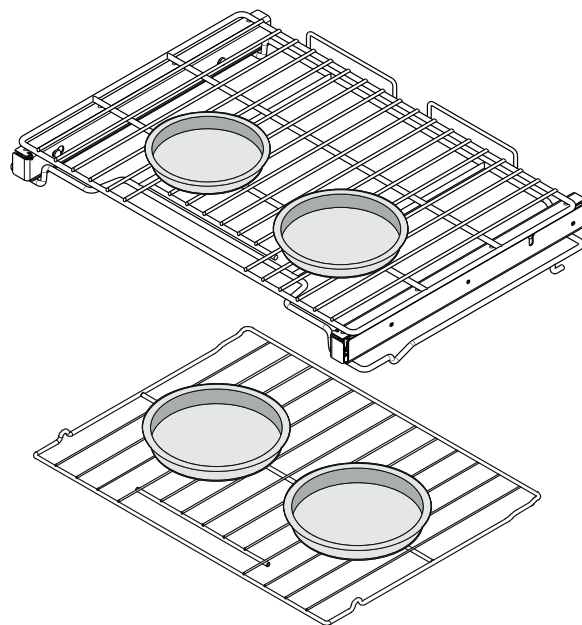

Figure 14: Pan spacing using multiple racks
- When using 2 oven racks for baking, position cookware allowing 2-4 inches (5-10cm) of space between the food items to ensure proper circulation. (Figure 14)